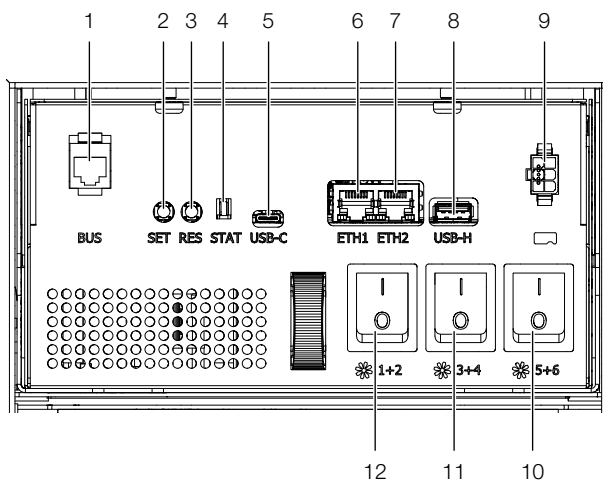

Fig. 99: Climate controller
In order to switch the device to normal operation (control operation), briefly press the "SET" button (fig. 99, item 10) once.
Up to 16 additional standard sensors may be connected to the climate controller to monitor additional physical parameters of the Liquid Cooling Package. To this end, the sensors are connected to the first CAN bus connection on the rear of the device (fig. 99, item 1) and configured via the Web interface.
1. By briefly pressing the "SET" button on the climate controller (fig. 99, item 2). This confirms all alarm messages simultaneously.